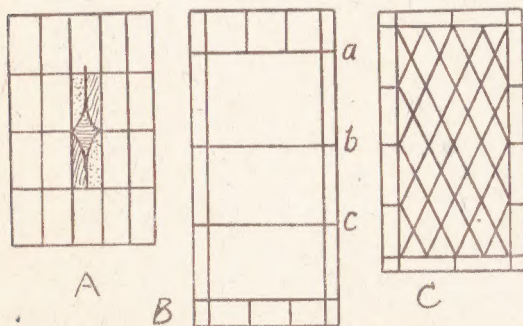

Fig. 1—Some simple patterns to use
Two samples are given in Fig. 1, at (A) and (C) and it is entirely optional on the reader's part whether he accepts the designs as they are, or in the case of (A) omits the central ornament, and in (C) ignores the border. A sheet of designs can also be bought for a few pence.
An alternative to this is to stencil a border, either with flat paint, or distemper itself, the latter, of course, of a contrasting or harmonising colour. The necessary stencil can quite easily be cut, and the actual work of stencilling is simple enough. At Fig. 1, a group of four simple designs are given, though, of course, artistically inclined readers may prefer to design their own.